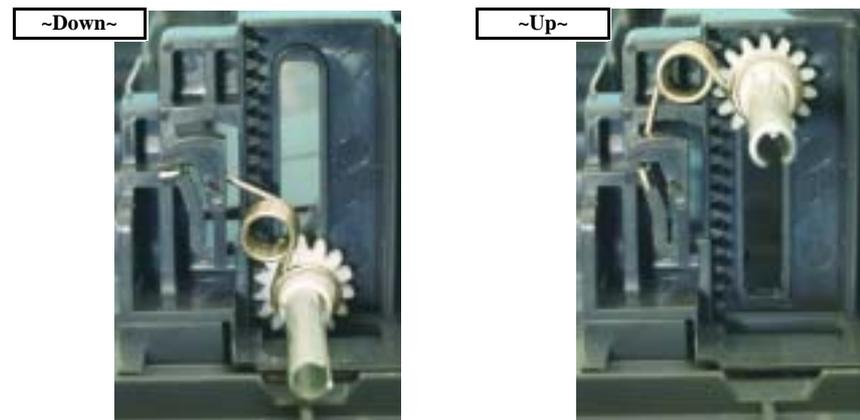

Figure 4-40. Installing the CD-R Guide Lever Spring
- See Fig. 4-40 for installation of the CD-R Guide Lever Spring.